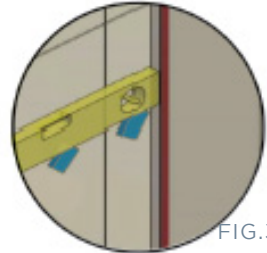

FIG.30
- Remove plastic backing from stabiliser blocks and press firmly onto wall (FIG 30).